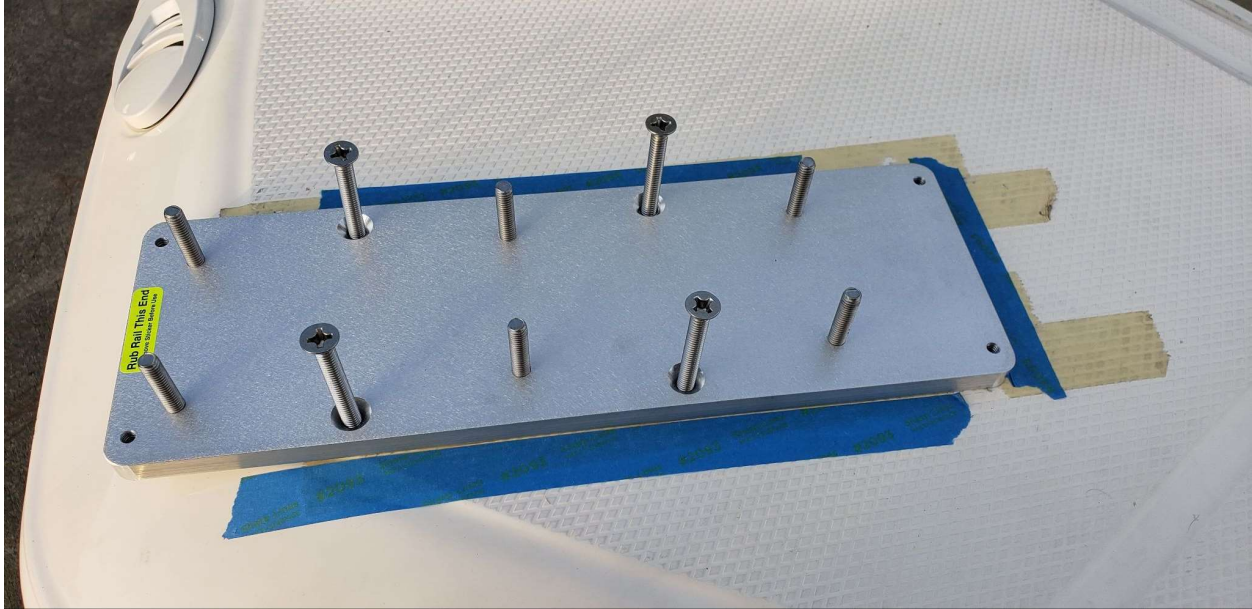

Figure 11.
- Figure 11 shows the locations in the bottom plate of the mount that 1/4-20 fasteners must be used to hold it to the deck of the boat.